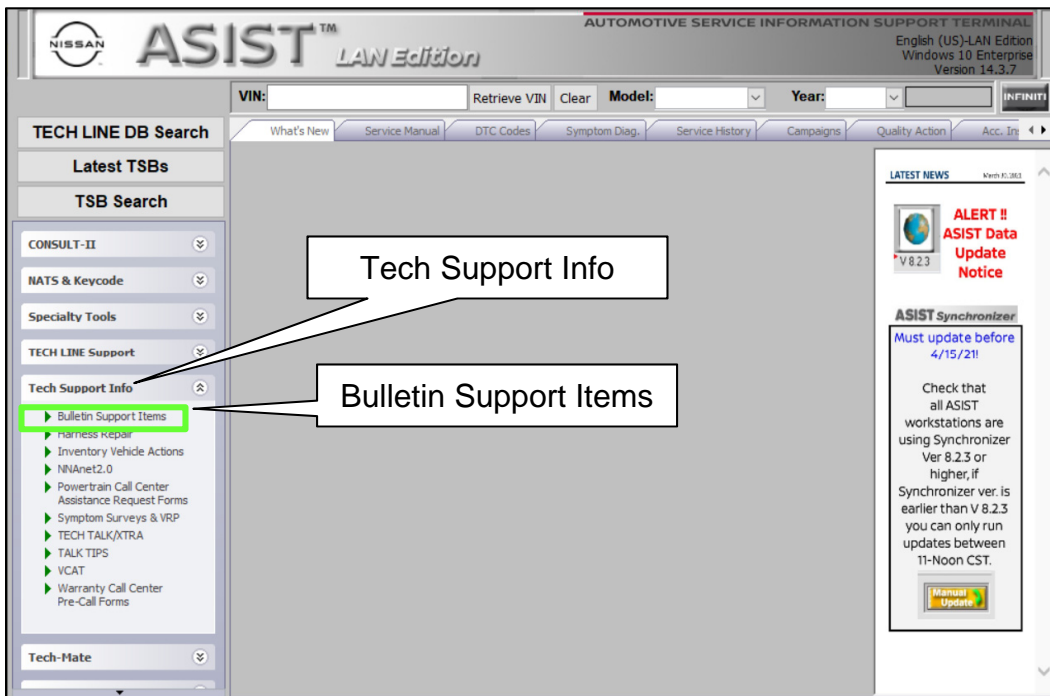
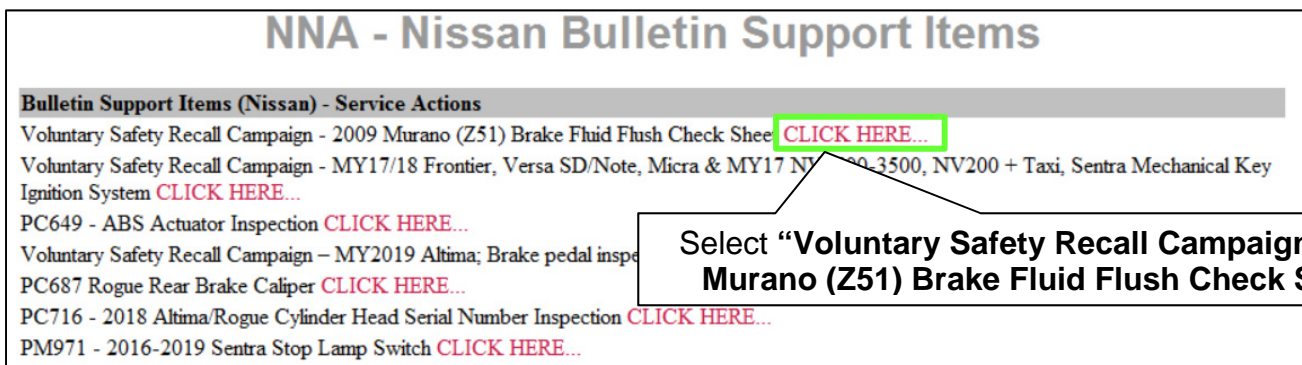

Figure 3
Figure 4
- The form can be accessed by selecting **ASIST > Tech Support Info > Bulletin Support Items > Voluntary Safety Recall Campaign – 2009 Murano (Z51) Brake Fluid Flush Check Sheet** (see Figure 3 and Figure 4).
- The form can be accessed by selecting **ASIST > Tech Support Info > Bulletin Support Items > Voluntary Safety Recall Campaign – 2009 Murano (Z51) Brake Fluid Flush Check Sheet** (see page 6, Figure 3 and Figure 4).